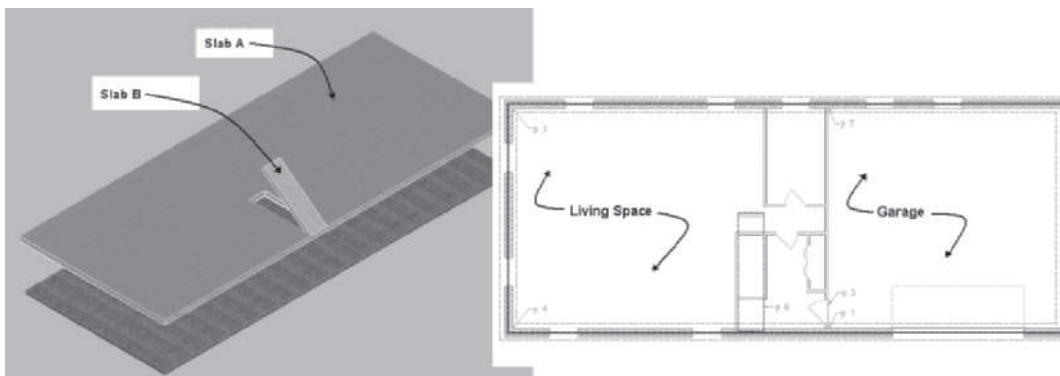

FIGURE 8.31 Slab added to the basement floor plan
4. Create slab **A** as shown in Figure 8.31. Import the **Wood Floor System** from the Slabs category of the Roof Slabs and Slabs category in the Design Tool Catalog—Imperial or Design Tool Catalog—Metric of the Content Browser into your drawing. Choose **Apply Tool properties to > Linework and Walls** to convert the exterior basement walls to the Wood Floor System. When you create the slab, specify Retain the layout geometry, **Bottom** justified, and baseline justified. Assign any of the four slab edges as the pivot edge for the slab. Select the slab, edit the Properties palette Thickness = **9.25"** [235], and adjust the Vertical Offset to **1 1/2"** [38].
7. Create a Slabs tool palette. To create slab **B** as shown in Figure 8.31, select slab A, drag the slab to the Slabs tool palette to create a tool for the **Wood-Floor-Ceiling slab**. View the building in isometric. Toggle Off Surface hatch to view the Polyline at **p6** as shown in the drawing. Convert the Polyline at p6, (as shown in the drawing file) to the Wood-Floor-Ceiling slab style. Project the slab 8'-0" [2438] using Bottom justification. Assign the pivot edge of the slab to align with the front wall. Edit the slab Thickness to **6" [150]**, Rise = **9" [75]**, and Run = **12" [100]**. After creating the slab, use grips to retain the slope of the slab and stretch the slab **5' [1500]** toward the inside of the house. Select slab **B** and choose **Copy Style** of the General panel in the Slab contextual tab. Name the slab style **Wood-Ceiling**. Modify the slab to remove the subfloor and wood flooring.
13. Turn off all layers except the **A-Slab [S232G]** layer to view the slabs as shown in Figure 8.31. Save the file and close the project upon completion.